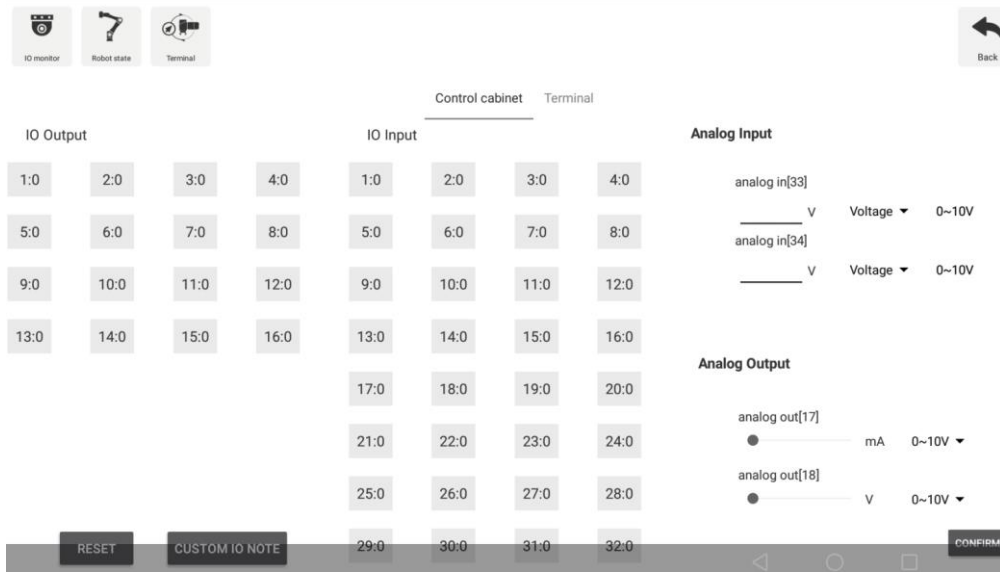

Figure 5.24 I/O Monitor
You can monitor and set the I/O status of controller and body, as shown in Figure 5.24, you can click **X:0** to set High(1) or Low(0) level (X indicates the number of I/O) in manual mode. You can also set the input or output of the current and voltage and the value.